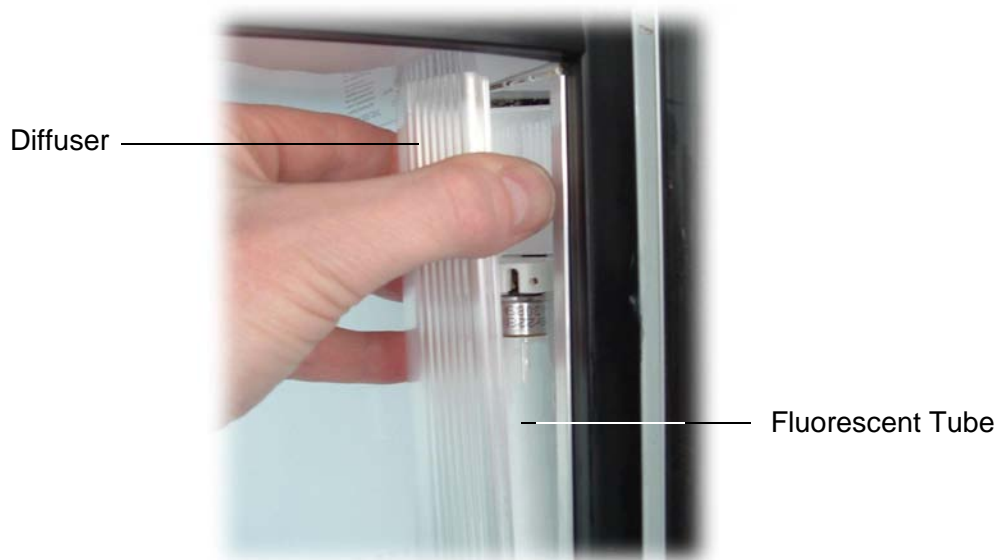

Figure 8: Cabinet Interior Light
2. Remove the side light diffuser, by compressing the back section of the diffuser until it disengages from the aluminium housing and then push the diffuser back (see Figure 8 below).